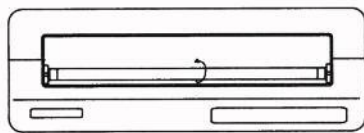

Fig. 3
3. Rotate UVC lamp one-quarter turn, top-to-rear, and remove lamp (Fig. 3).